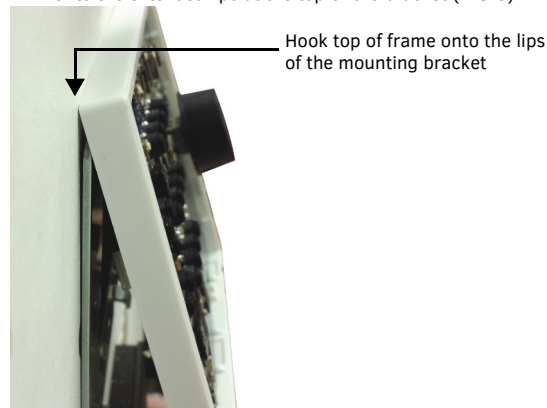

FIG. 3 ATTACHING THE FRAME TO THE METAL BRACKET
5. Attach the keypad frame to the mounting bracket by hooking the top of the frame onto the extended lips at the top of the bracket (FIG. 3).